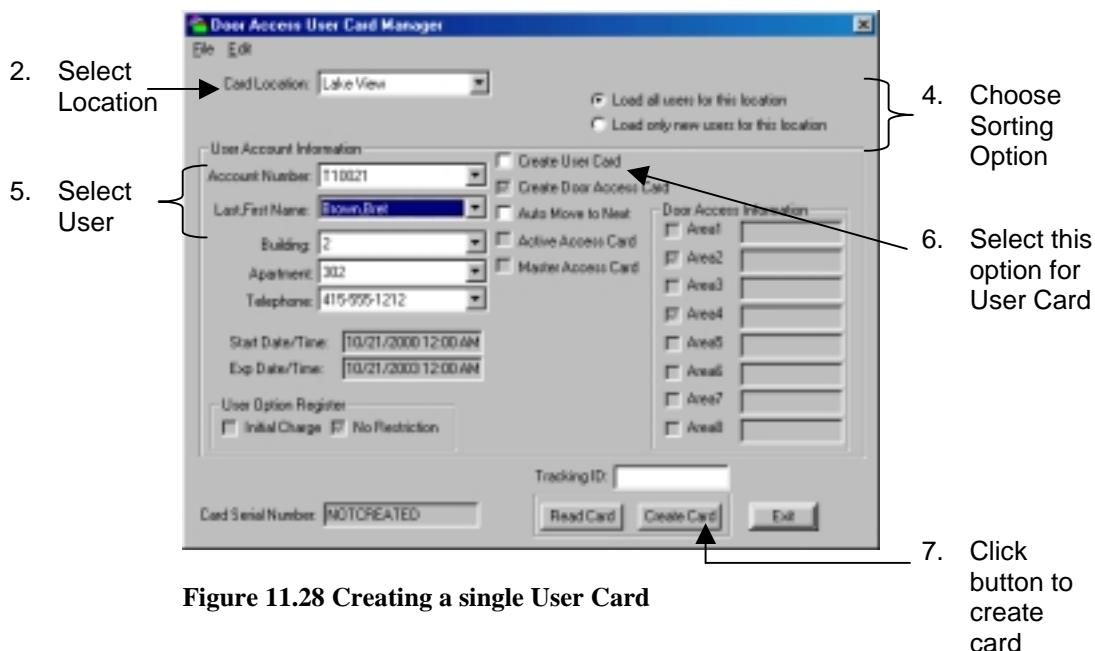

Figure 11.28 Creating a single User Card
2. Select the user's location from the Card Location selection (Figure 11.28).
3. If this card is being created for a new user, select the “Load only new users for this location” sorting option to limit the number of users to be listed (Figure 11.28).
4. Select the User Account Number or name from the appropriate drop down selection (Figure 11.28).
5. Enable the “Create User Card” option by clicking on the appropriate box if the card will be used for laundry vending applications (Figure 11.28).
7. Click the Create Card button (Figure 11.28).